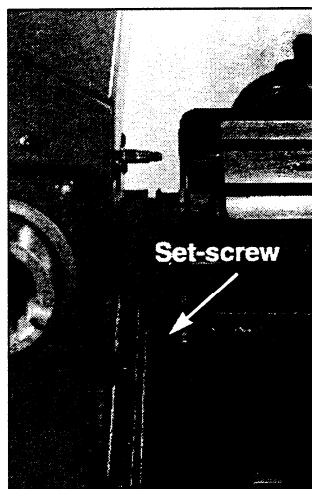

Figure 4
4. Replace eye bolt with 1/2-13 set-screw provided (**Figure 4**). Turn until flush with surface.